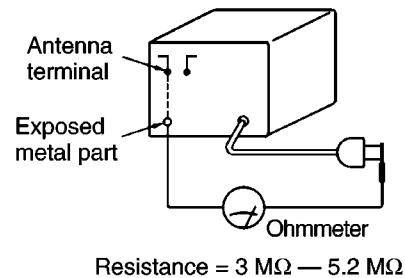
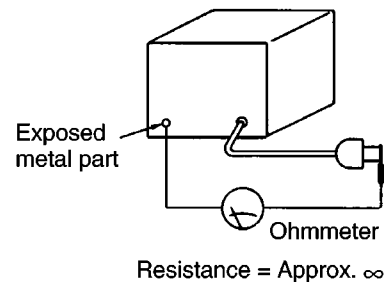

Fig. 1-1.
Fig. 1-2.
3. Measure the resistance value with ohmmeter between the jumpered AC plug and each exposed metal cabinet parts, such as screw heads antenna, control shafts, handle brackets, etc.. Equipment with antenna terminals should read between 3 M Ω - 5.2 M Ω to all exposed parts. Refer to Fig. 1-1. Equipment without antenna terminals should read approximately infinity to all exposed parts. Refer to Fig. 1-2.